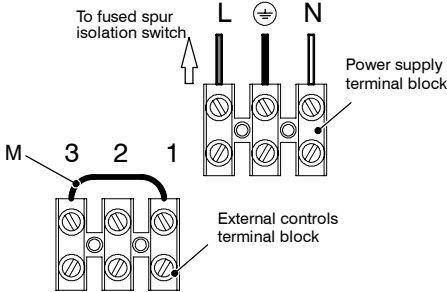

Fig. 6.16
- 6 Connect the electrical supply flexible cord coming from the fused spur isolation switch to the power supply terminal block of the boiler (Fig. 6.16) keeping the same connections for the live (brown wire) and the neutral (blue wire). External 3 A fuse or fused plug with same current rating is recommended. **Do not connect live wires to terminals to which the room thermostat must be connected.**
**When connecting any type of external control, the link M in Fig. 6.16 must be removed.**